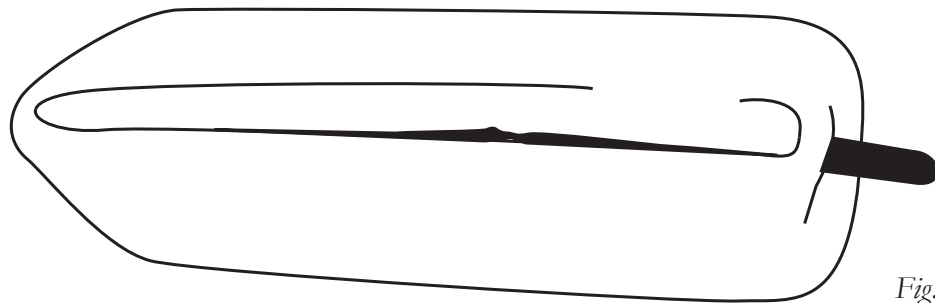

Fig. 7
2. Remove the plastic cap from the barbed stem on the end of the air spring. Exhaust the air from the air spring by rolling it up toward the barbed stem. Replace the cap on the stem to hold the flat shape (Fig. 7). Fold the air spring into a hot dog bun shape as shown.